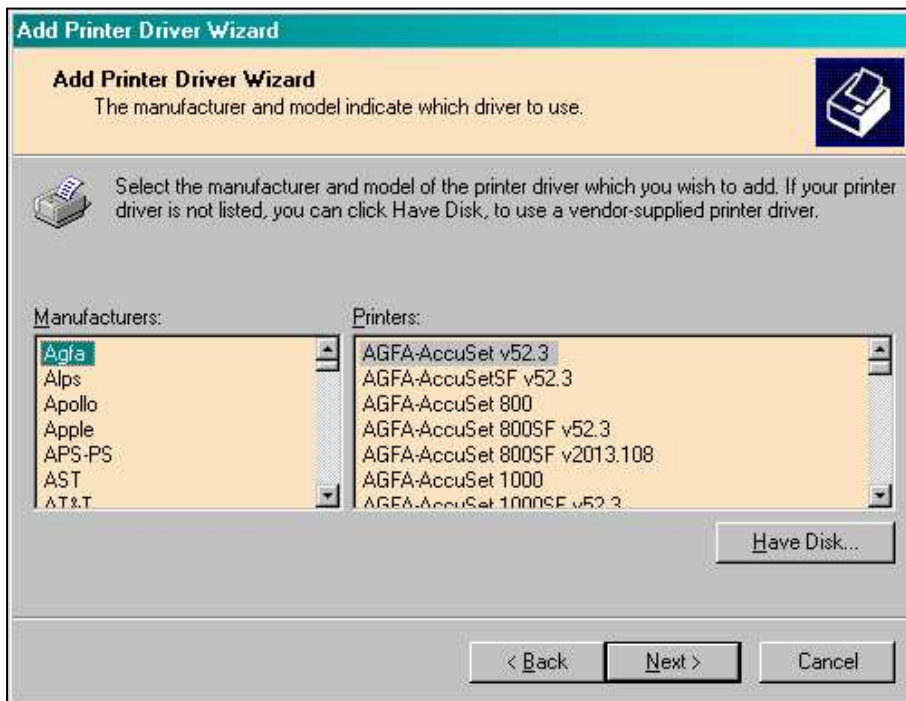

Figure 19
3. The dialog of Figure 19 follows; click '**Have Disk...**'.